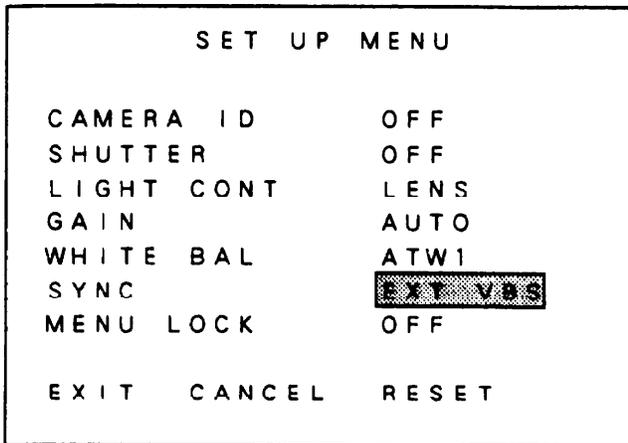
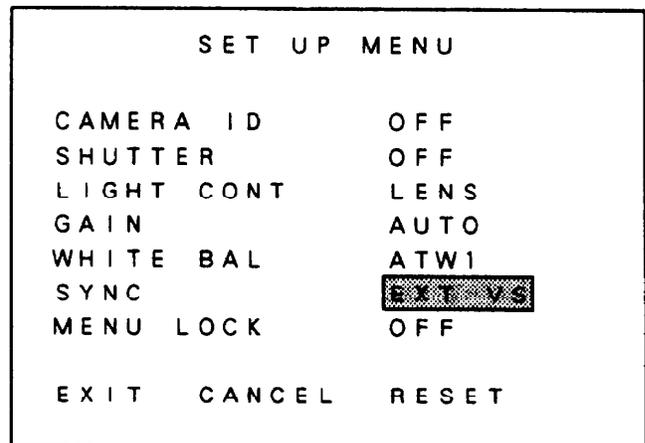

Fig. 7-22
Fig. 7-23
- (1) With the Genlock signal being fed in, the camera is automatically put in the external sync mode. When the VBS or BBS signal is inputted in this mode, "EXT VBS" is displayed as shown in Fig. 7-22. With the VS signal, "EXT VS" appears as shown in Fig. 7-23.